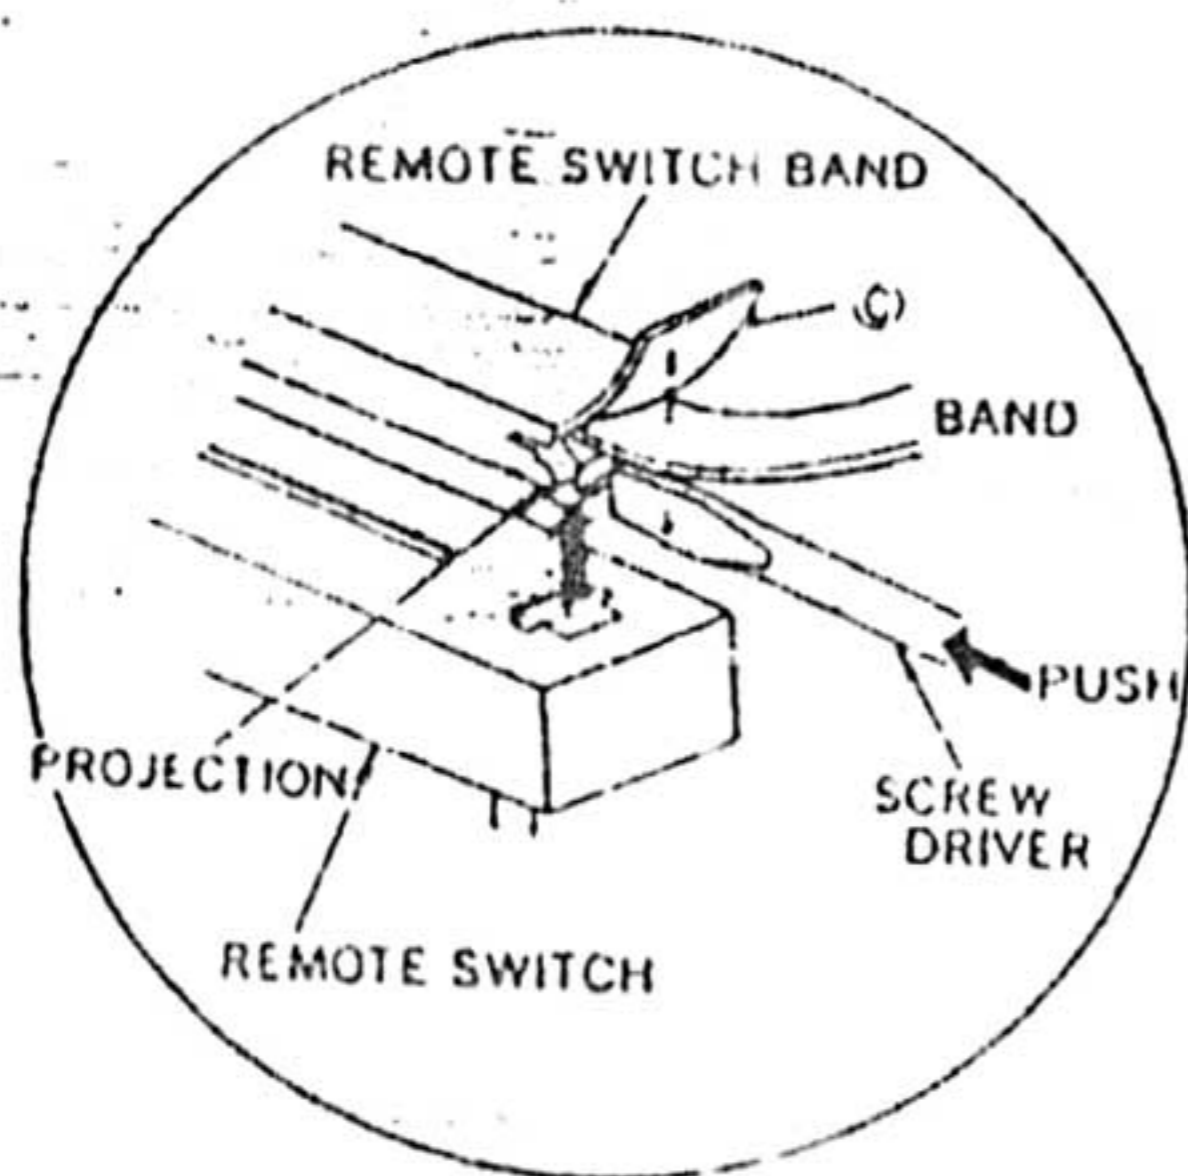

Fig. 2
[Fig. 2]
1. Use a small screwdriver to push the projection of the remote-switch bands in the direction shown by the arrow in figure 2, and remove them from the remote switch.
Note: When removing the remote-switch bands, be careful not to pull the bands nor to hold them as shown in (C) of figure 2, because to do so may result in damage. Also be careful not to bend or twist the bands excessively.
- 3) Make the adjustment in the same way as mentioned in 2-1 by regulating R529 (L ch) and R530 (R ch) so that the 9th segment (at 50W position) is about to turn on. Refer to fig. 2.